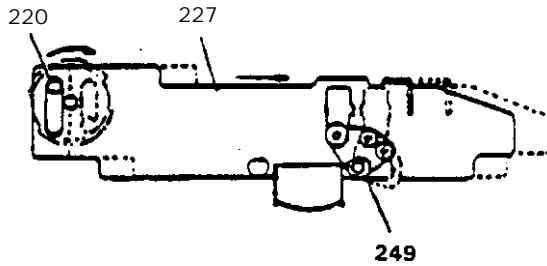

FIGURE 3-9. FORWARD/REVERSE SWITCHING
Transfer of the Reverse Plate moves Pinch Rollers (206 and 207), Idler Gear (253), and Azimuth Arm (249) for FWD/REV switching, (see Figure 3-9).